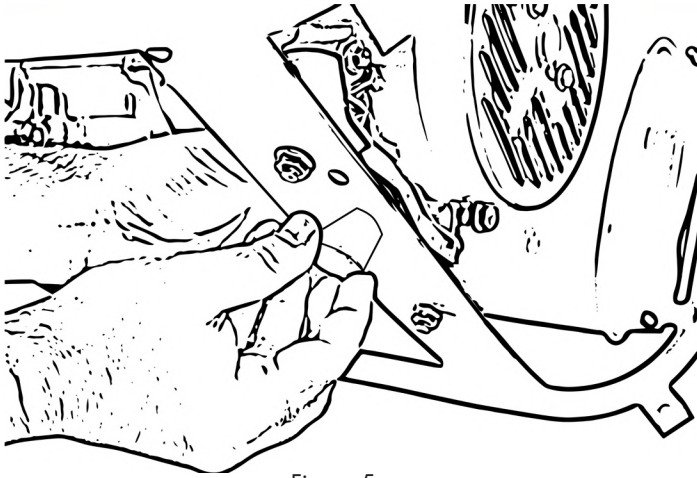

Figure 5
- Fit a small rubber foot to the lower rear bracket of the appliance, see Fig. 5.